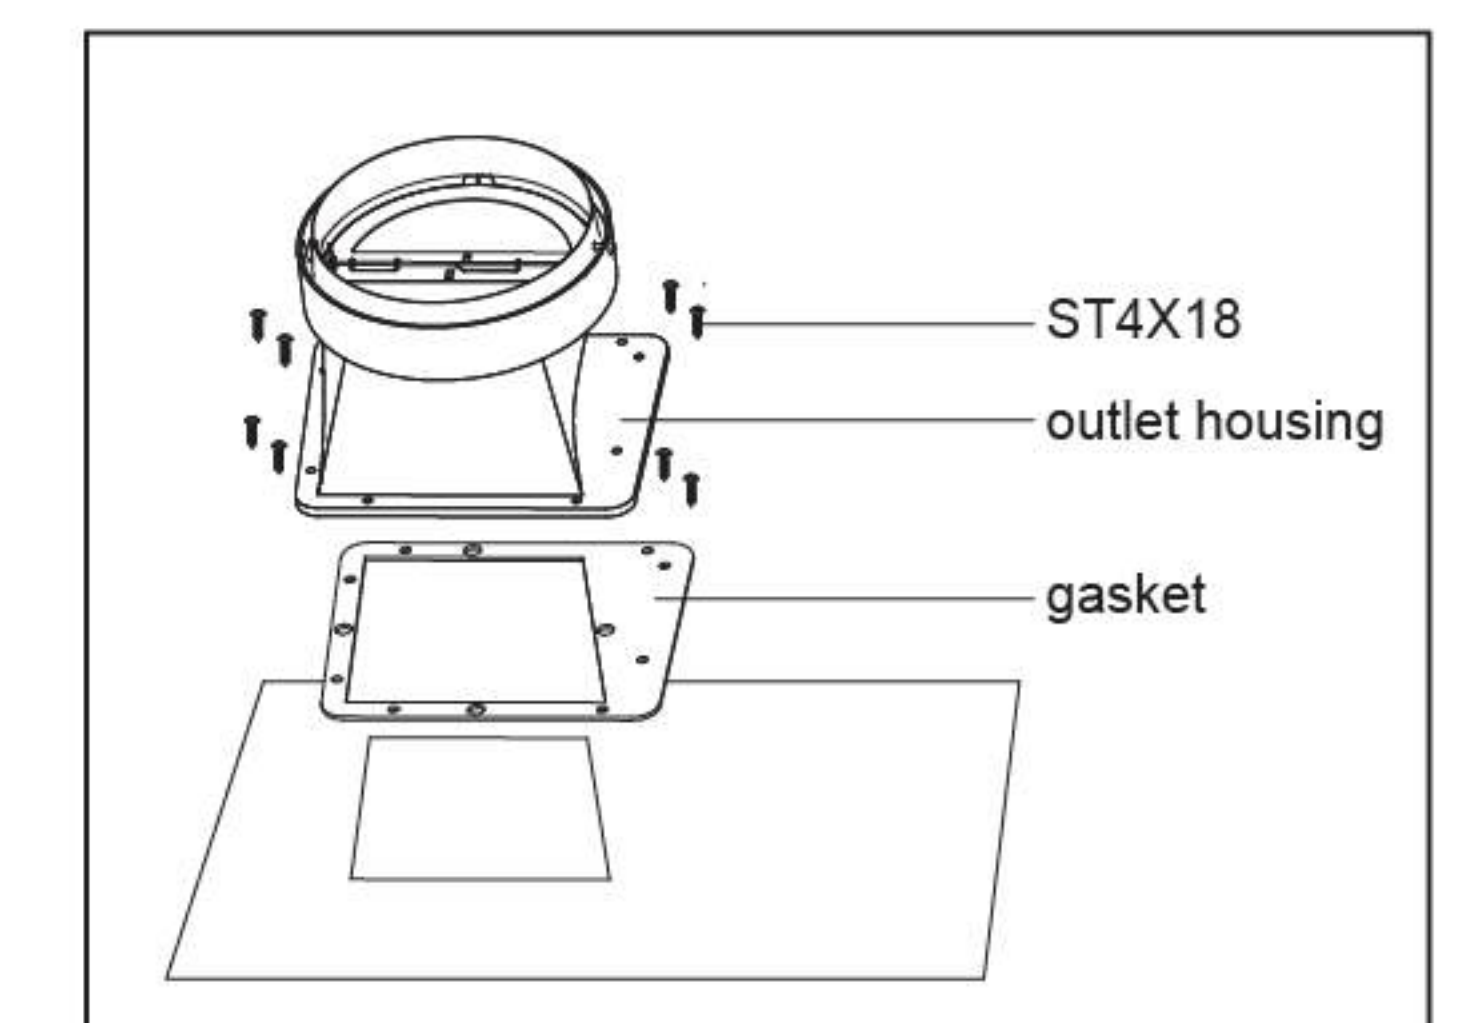

fig 6
- Place the outlet housing and the sealing rings at the air outlet of the main body, and use 8 screws (M4×18mm) to fix the outlet housing and the sealing rings. (fig 6)